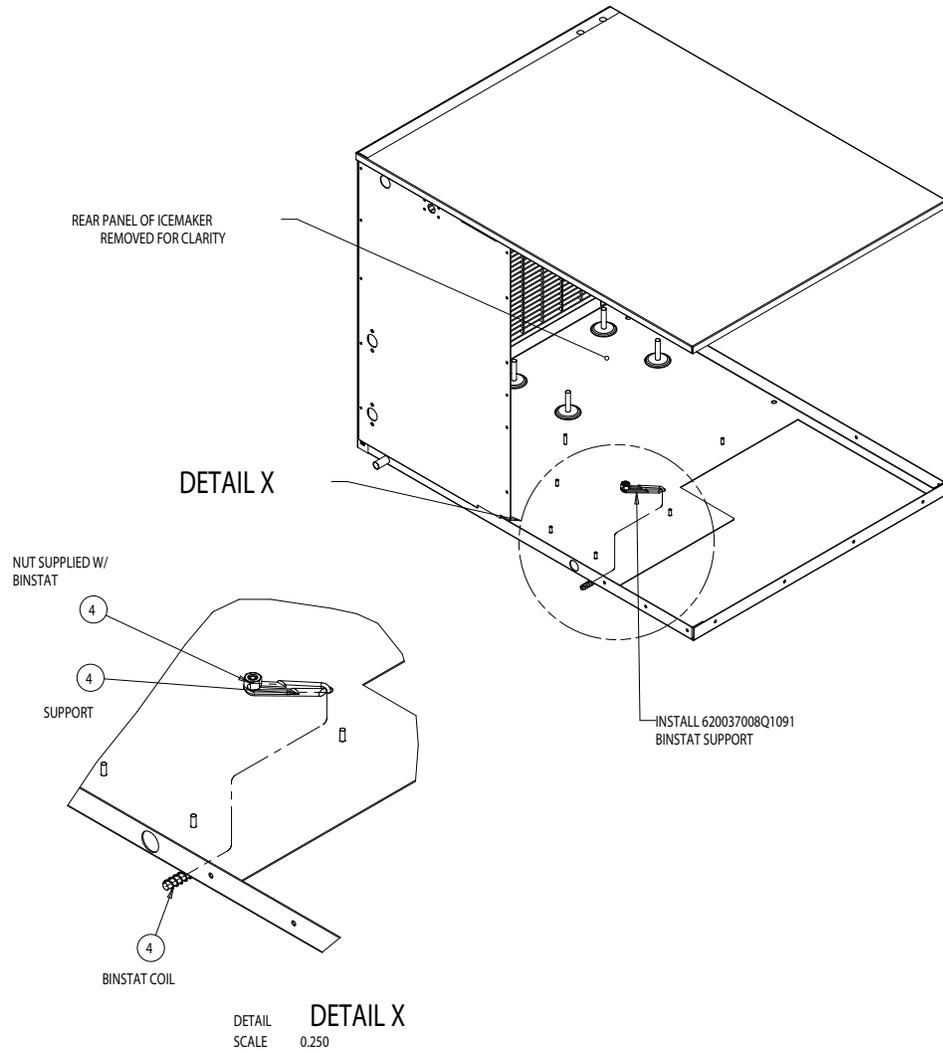

FIGURE 3
7. Install the brackets (item 5) on either side of the ice maker, using the brackets as a template. **Use care not to drill into any ice maker components (condenser, tubing, etc.) or into the ice hopper.** Be sure to overlap the lid assembly with the brackets, installing screws in both the lid assembly and ice maker.
8. Install the wireform bracket supplied with the bin-stat kit (item 4) through the 5/8" diameter hole in the bottom of the ice maker, wrapping the eye of the wireform over the stud near the hole in the ice maker and secure with the 8-32 nut provided (Figure 3). Feed the bin-stat cap tube through the hole to the end of the wireform bracket and wrap the tube around the end of the bracket several times, insuring that the tube is secure.